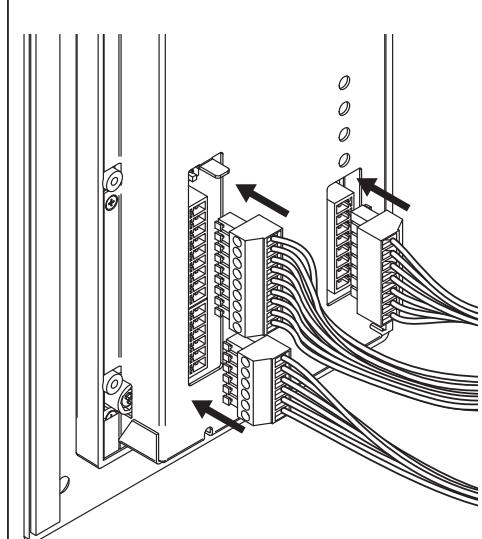

Fig. 3
2. Make all the connections on the removable terminal blocks (**Fig. 2**), then plug back into the panel (**Fig. 3**), setup the dip-switches as per provided connection diagram or instruction sheet, then power up the system and check that it works correctly;